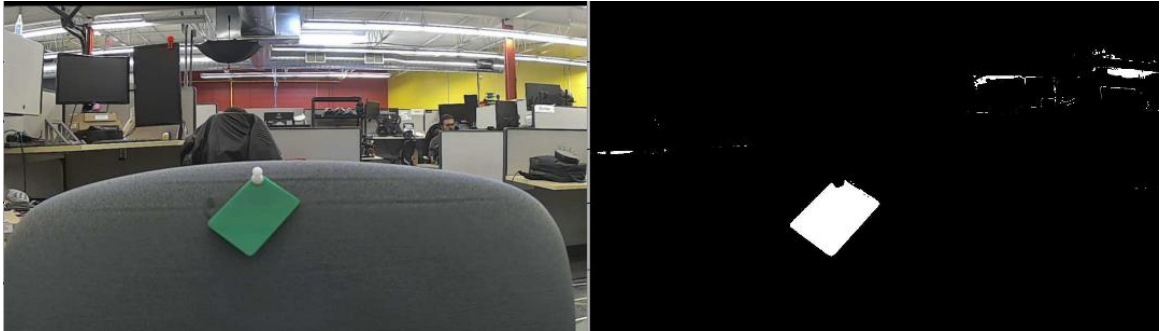

Figure 2. Identify Object of Interest
4. Open the Image Processing subsystem which processes the camera video feed to detect objects. Ensure all Manual Switches (MS) are up, except MS D, which should be down. Run the model—the QArm Mini will move to its home position. Open the Video Display (Image processing) on the right side to visualize how the filters affect the original image.
7. Open the **Mask** Video Display block to monitor image segmentation. Identify your object's hue (0–360) using the color wheel and adjust the slider in section 2 to match the object's color. Modify the search window and the min/max S & V range to isolate your object as shown in Figure 2. Some noise is expected—this will be addressed in the next step.